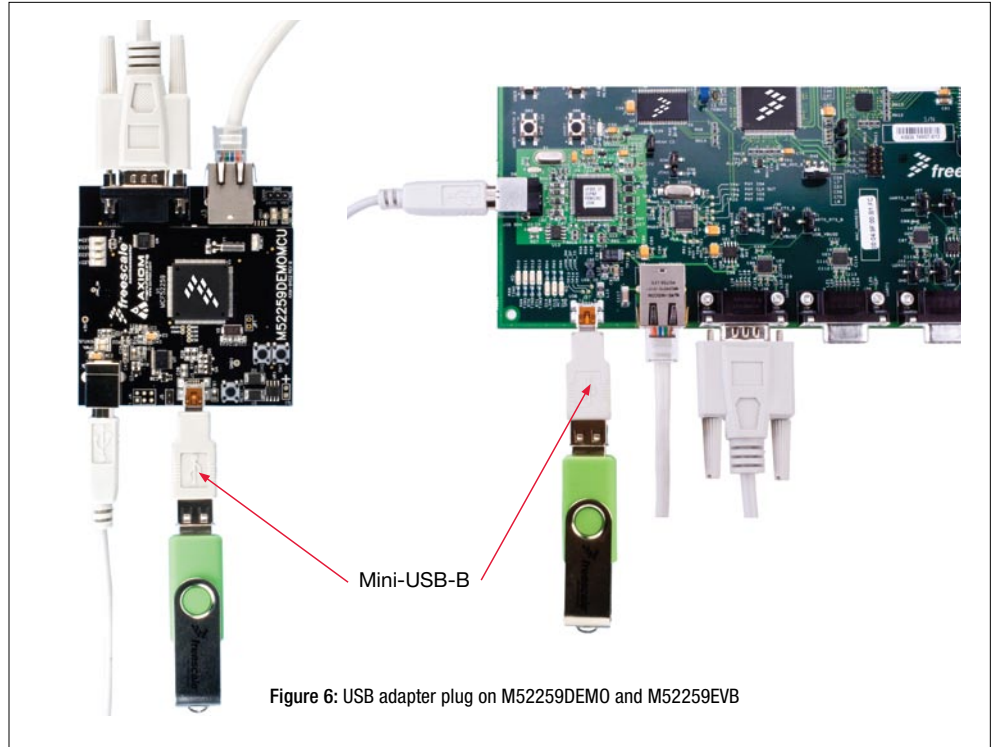

Figure 6: USB adapter plug on M52259DEMO and M52259EVb
- Insert the USB Memory Stick that is included in your kit into the USB connector on the EVB. You will need the mini USB-B adaptor plug. See Figure 6.